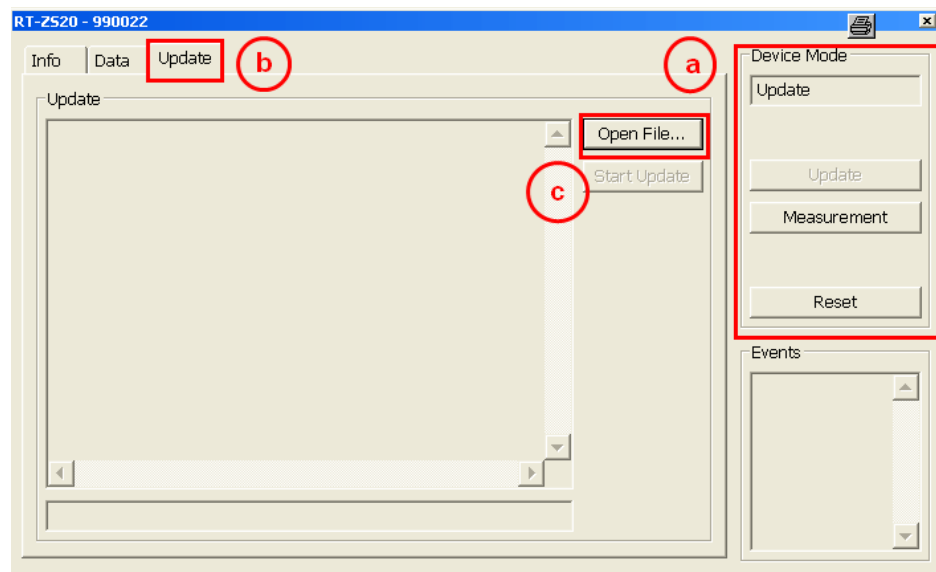

Figure 4-2: R&S RT-Z device manager software update mode
2. The "Device Mode" of the software application will change to "Update" mode (a). The "Configuration / Measurement" tab will change to "Update" (b) as shown in Figure 4-2.